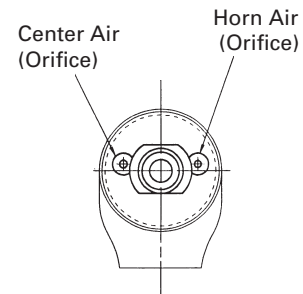

Figure 1 (Facing front of gun with tip removed)
Procedure: Attach air cap test kit and adjust pressure at inlet to 50 psi (3.5 bar) with trigger depressed. Air cap test kit gauge should read 10 psi + 0 - 1 psi (.7 bar + 0 - .1 bar). If pressure varies more than 10%, clean orifices using the following procedures. Remove tip (5), baffle (air distributor) (6) and air valve (18) and blow air back through the orifice to clear blockage. Reassemble. See Figure 1.